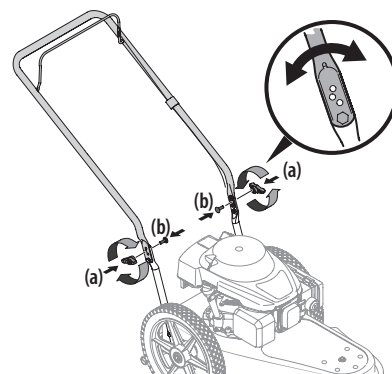

Figure 2
4. Flip the wing knobs (a) and carriage bolts (b) so that the wing knobs are positioned at the outside of the handle when installed. See Figure 2.
5. Secure the upper handle to the lower handle using the wing knobs (a) and carriage bolts (b) removed in Step 1. See Figure 2.